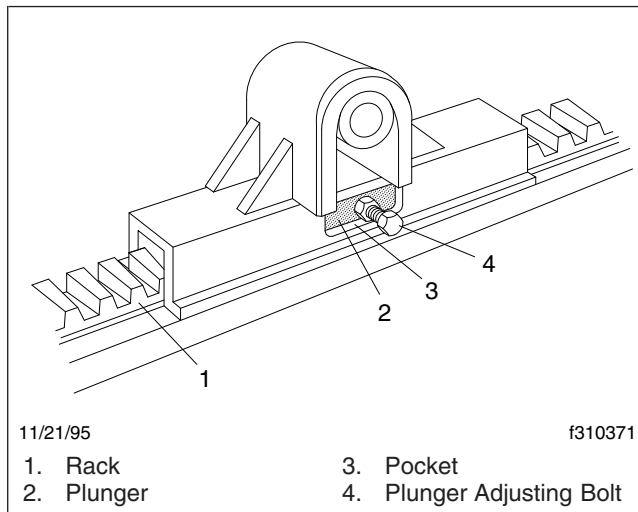

Fig. 13, Holland Fifth Wheel Sliding Mechanism
1. Loosen the locking plunger jam nut and turn the adjusting bolt out (counterclockwise). See Fig. 13.